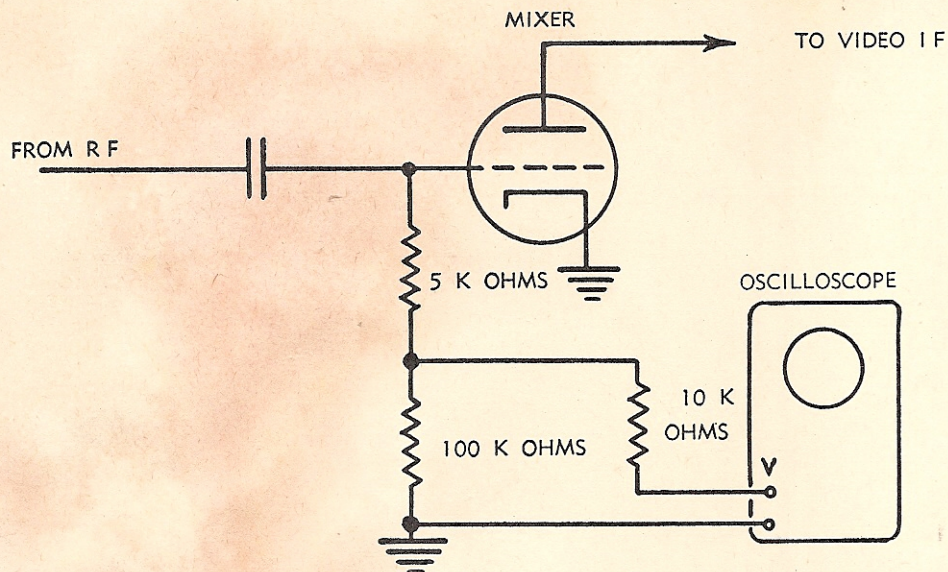

Figure 9—Method of Connecting Oscilloscope to Mixer
- B. *Instrument Connections.* Clip the combined output of the marker and sweep generator to the television receiver's antenna terminal lugs via the required dummy load. The oscilloscope, if the circuit permits, may be connected across the lower portion of the mixer grid leak resistor, as indicated by Fig. 9. If this is impossible, a demodulator probe must be used in series with the oscilloscope leads.